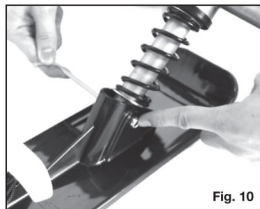

Fig. 10
11. Insert the Front ski bolt⑩, screw the locknut on and tighten it well using the Allen key⑨ provided. (See Fig. 10)